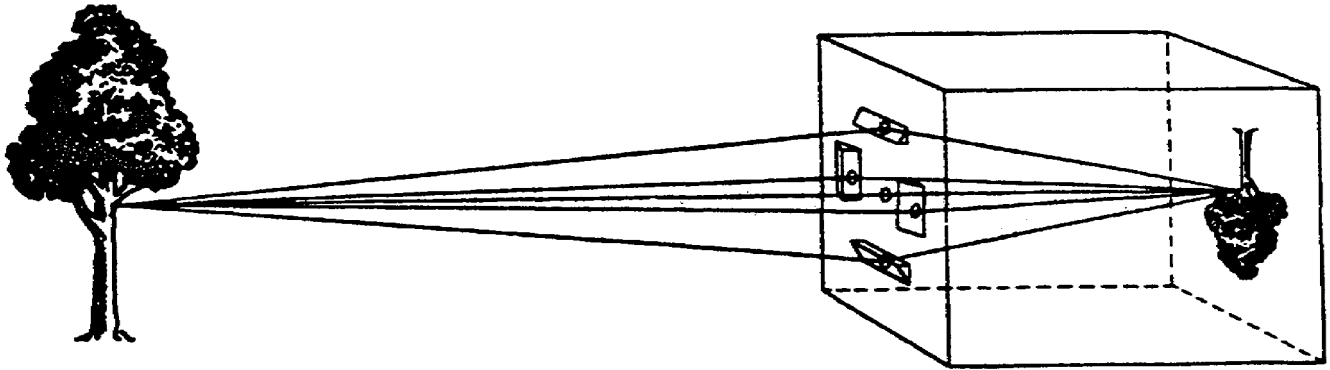

Figure 2-4. Separate images made to coincide.
c. Next, use the principle of refraction to make these four images coincide with the center one. In other words, place a prism behind each pinhole so that the light forming each of the four images is refracted to form a single image. This image is about five times as bright as the original image, (fig 2-4).